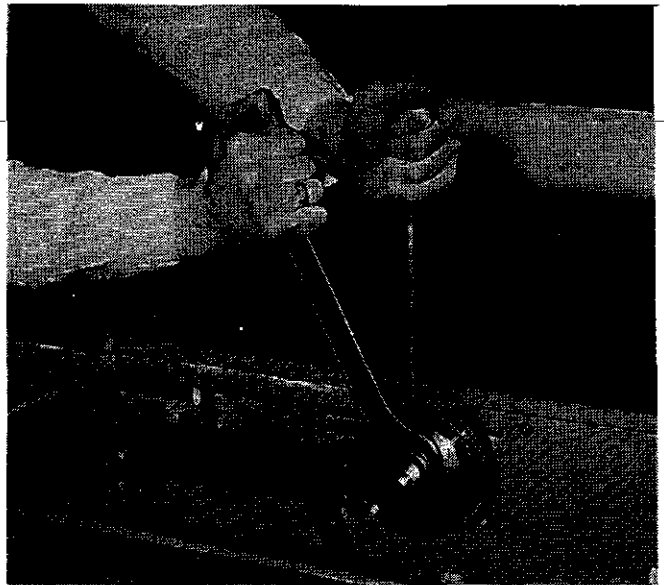

FIG. 24.
5. Locate 10mm toggle bar in rear of spindle housing as shown in FIG.24, then remove arbor nut (left hand thread) and front saw flange.